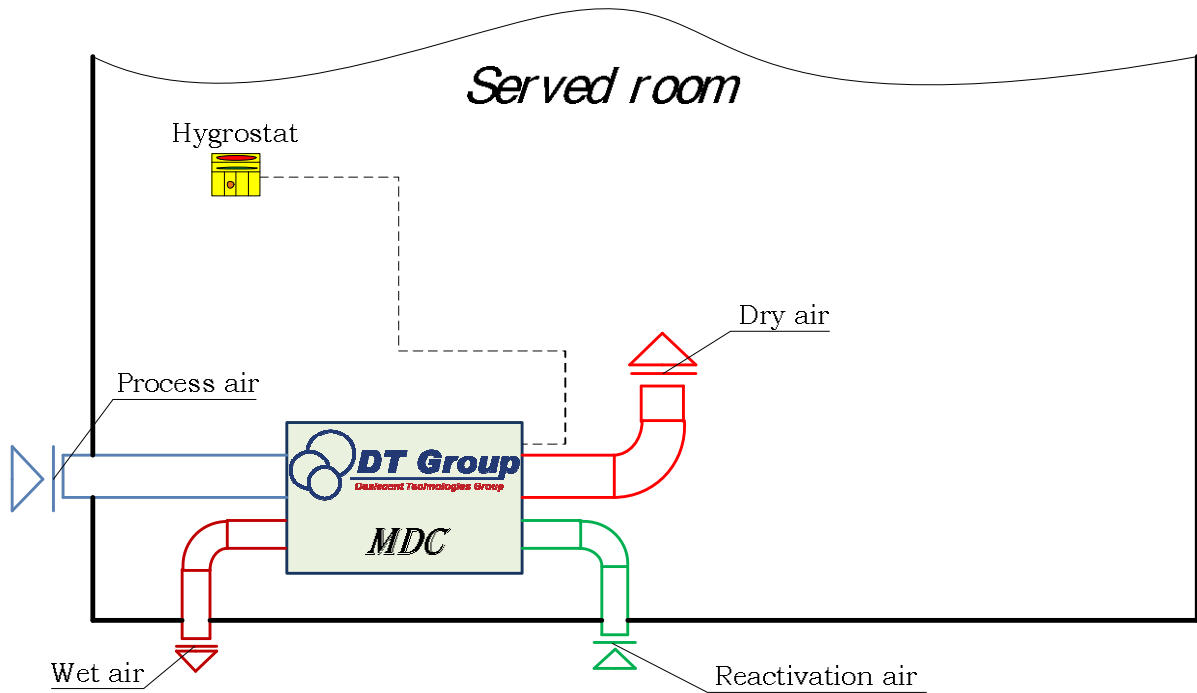
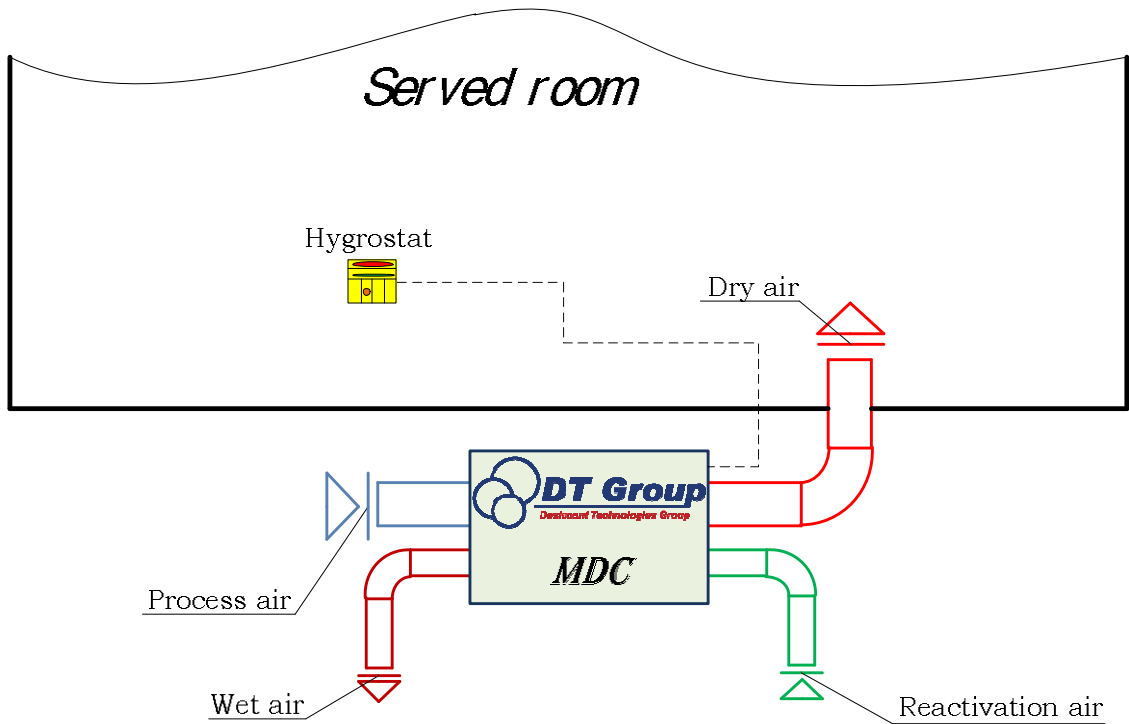

Figure 4.3: Work of dehumidifier on an "open" circuit (indoor version)
Figure 4.4: Work of dehumidifier on an "open" circuit (outdoor version)
- ✓ Work of dehumidifier on an "open" circuit (indoor version), Figure 4.3;
- ✓ Work of dehumidifier on an "open" circuit (outdoor version), Figure 4.4;
Figure 4.3 shows indoor installation of the dehumidifier working on "open" circuit (in the mode of supply of fresh air), i.e. outdoor dehumidified air is blown into the premise. Reactivation air is taken from the outdoor and is thrown there back. This is useful if the inside air directly due to the presence of particles and substances in it that could damage the individual elements of the dehumidifier.
Figure 4.4 shows the outdoor installation of dehumidifier, working in the mode of fresh air supply. It differs from the third version (see Figure 4.3) only by the location of dehumidifier.